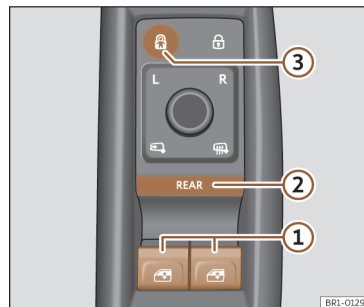

Fig. 81 Detail of the driver's door: window controls.
- ① Electric window operation buttons.
- ② **REAR** Button for activating the power window operation and comfort opening and closing.
- ③ Button to deactivate the power window operation buttons on the rear doors and activate the child lock on the rear doors. By default, the power windows on the front doors can be operated with the buttons >>> **Fig. 81 ①**.
REAR Briefly press button >>> **Fig. 81 ②** to activate the operation of the rear door power windows. When the operation of the rear door power windows is activated, the button's light is on.
Press the button >>> **Fig. 81 ③** to deactivate the power window buttons located on the rear doors. When these buttons are deactivated the button light turns out.